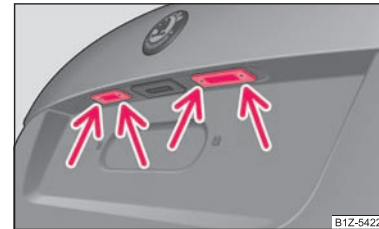

Fig. 200 Remove the licence plate light
- Open the boot lid and unscrew the light glass ⇒ fig. 200.